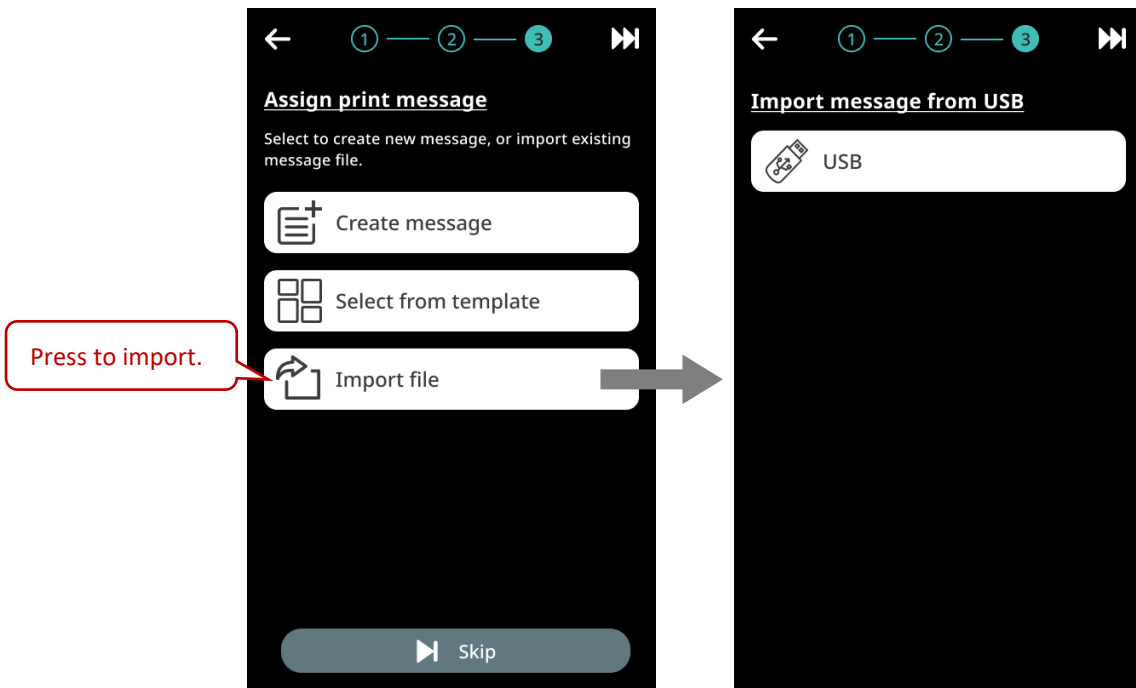

**Figure 1-14. Initial Setup – Select from Template (4)**
**STEP 4:** After saving the edited message, a notification appears as the following **Figure 1-14** shows. Press **OK** to start printing.